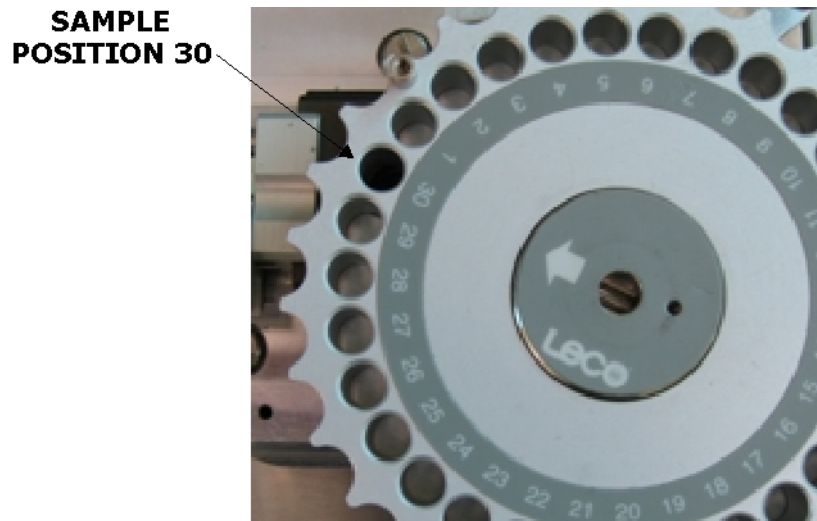

Figure 3-2
| Figure 3-2 Carousel Open Position | 3-10 |
3. Looking down into the carousel, turn the bottom plate until hole number 30 is open. Refer to Figure 3-2 below.